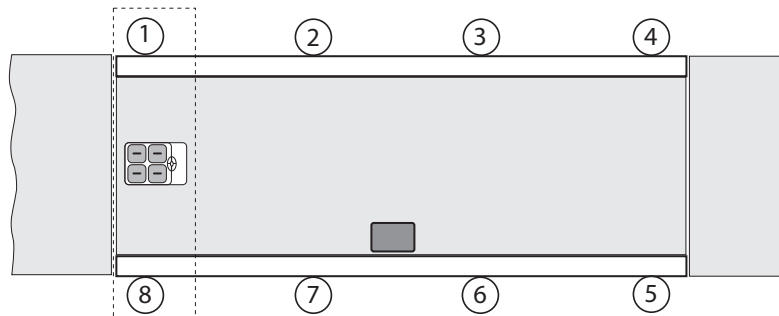

Figure 8-4. Trimming Paired Section 1:8
1. Park the loaded weight cart in the middle of the scale and directly over an imaginary line connecting an end pair of cells (1 and 8 in Figure 8-4). Record the indicator reading.